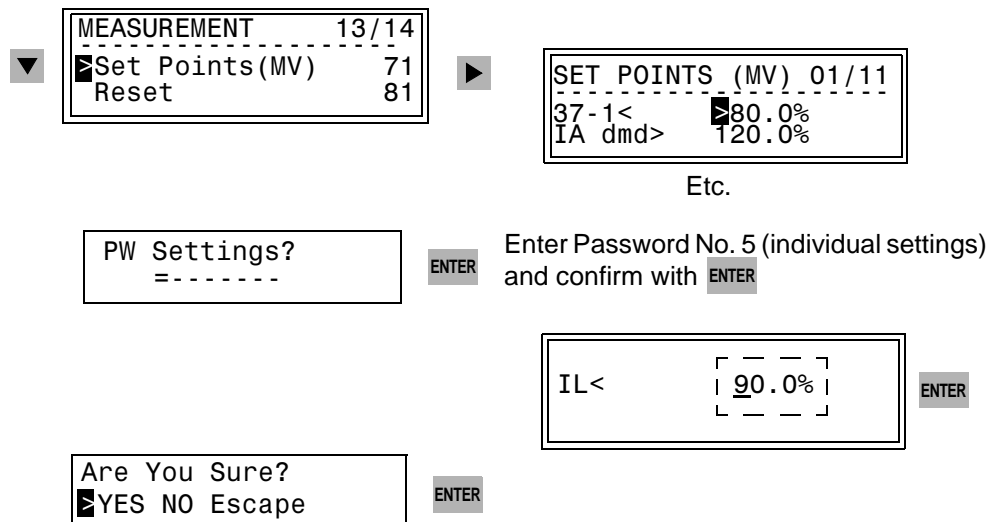

Figure 7-26 Setting Limit Values at the Front Panel — Example
There, select the menu item **Set Points (MV)** with the **▼** key, and switch to the list of limit values using the **▶** key (see Figure 7-26).
Upon leaving this level using the **◀** or **MENU** keys, the safety inquiry “Are you sure?” appears, with the default answer “Yes” (Figure 7-26). Confirm with the **ENTER** key if the value should become effective. If a change to the value is not desired, press the **▶** key so that the answer “No” is marked, and confirm this with the **ENTER** key. To correct the value, mark “Escape”, confirm this with the **ENTER** key, and enter the value again